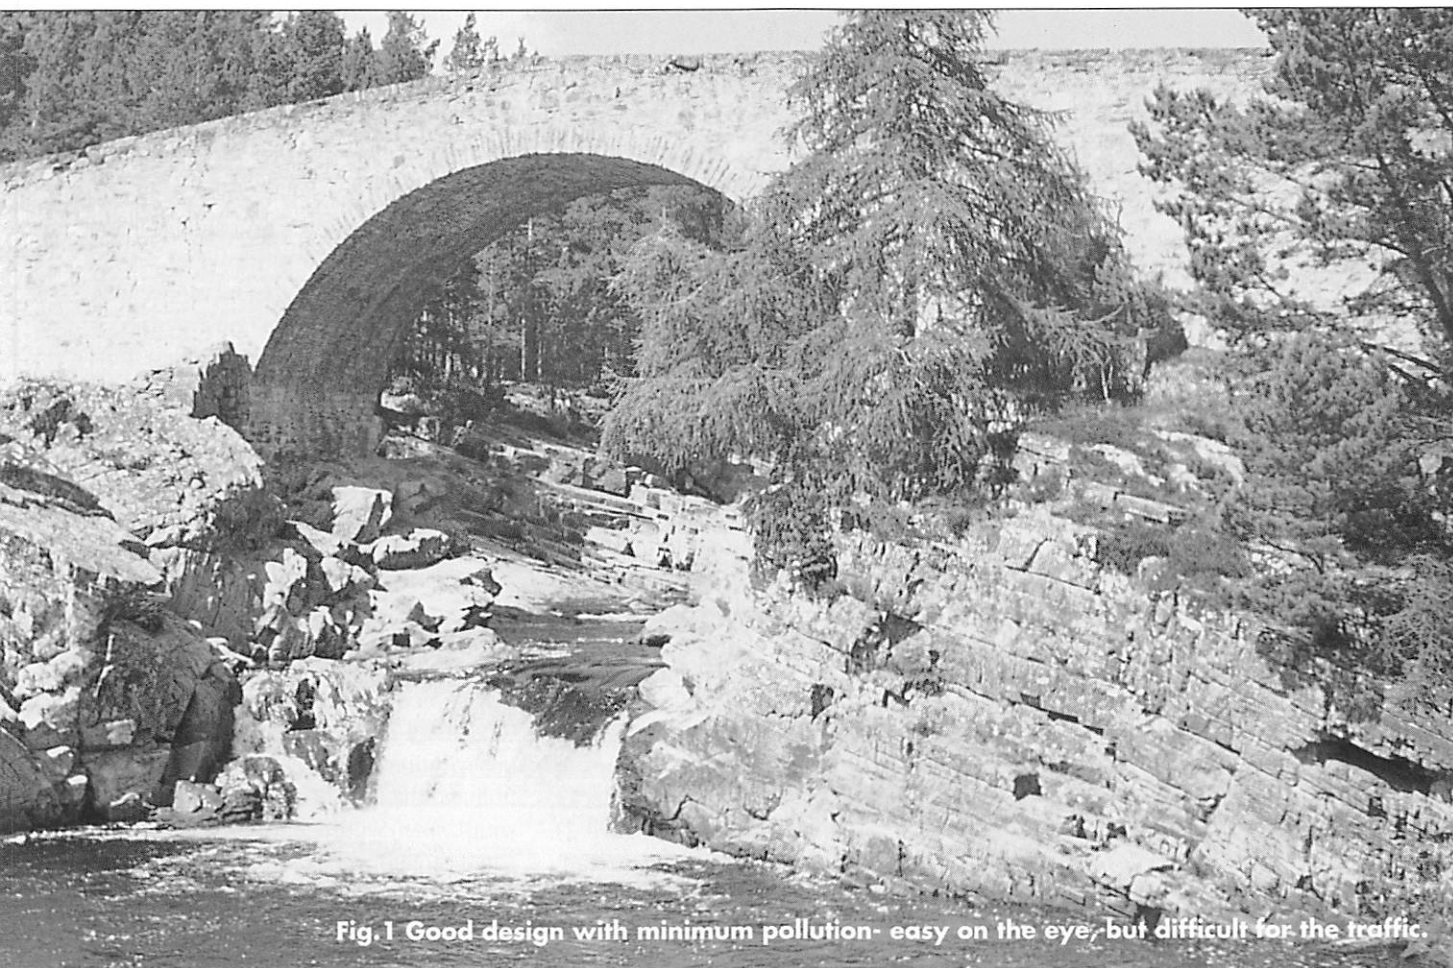

Fig.1 Good design with minimum pollution- easy on the eye, but difficult for the traffic.
**T**his paper is about designing, constructing and maintaining environmentally friendly, small bridge structures over water without polluting the stream or the aesthetics of the area. That is avoiding dropping things into the water and disturbing the visual harmony. The obvious mistake is spilling paint or cement into the water but it is extremely important to leave the natural bed undisturbed. This means no excavators in the river and no round culverts or Irish bridges. The countryside usually looks best totally undisturbed and a bridge added to it can upset it. The secret is to introduce it as sympathetically as possible, create harmony, add interest and avoid bold statements (*Figure 1*) The ground